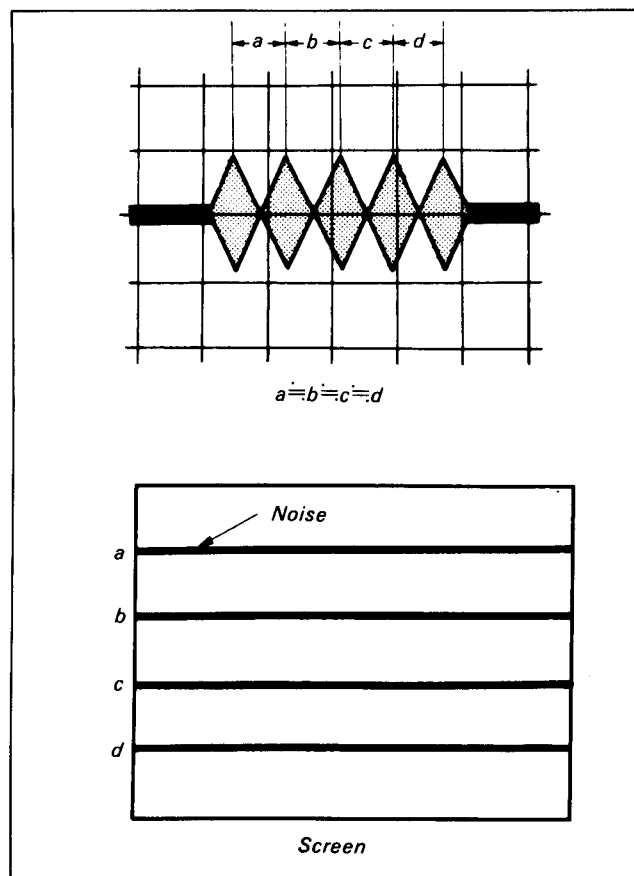

Fig. 8-87.
- 6) Set up the REV mode and confirm that the waveform noise pitches are uniform. If not adjust as follows. (Fig. 8-87)